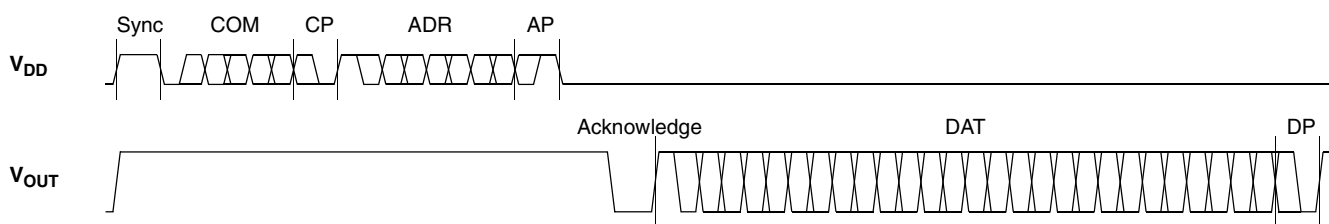

Fig. 5-3: Telegram for coding a Read command
- Read a register (see Fig. 5-3 on page 34)